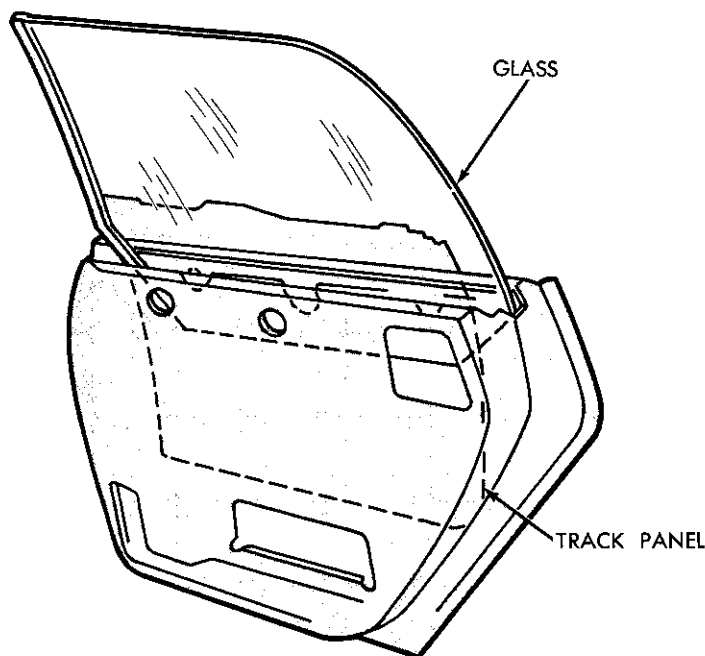
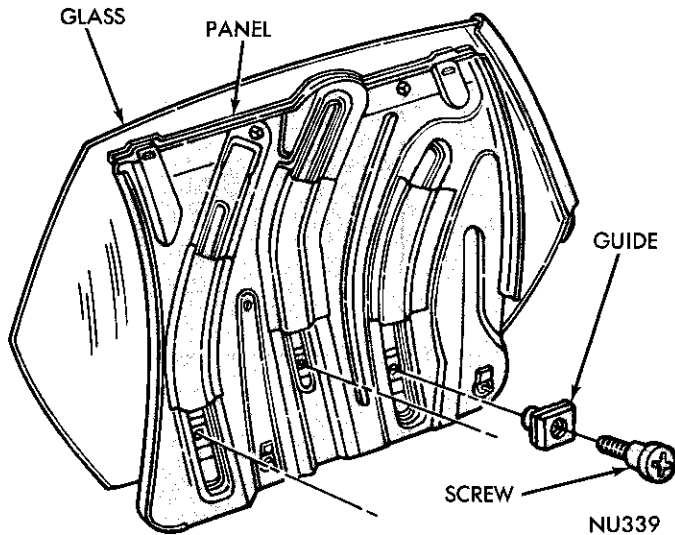

Fig. 64—Glass Replacement
Fig. 65—Track Panel Stabilizer Guides
(7) Raise track panel completely and remove glass and panel assembly (Fig. 64).
(8) Place track panel and glass assembly on a protected surface with the glass facing downward.
(9) Remove track stabilizer guide screws (Fig. 65) and remove guides from track panel.